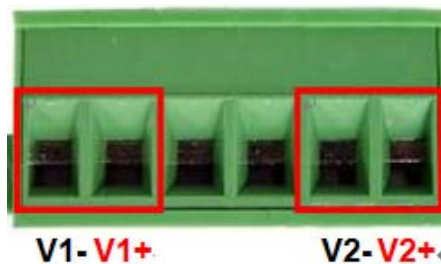

Figure 2.6
- Insert the positive and negative wires into the PWR1 (V1+, V1-) and PWR2 (V2+, V2-) contacts on the terminal block connector as shown below in *Figure 2.6*.